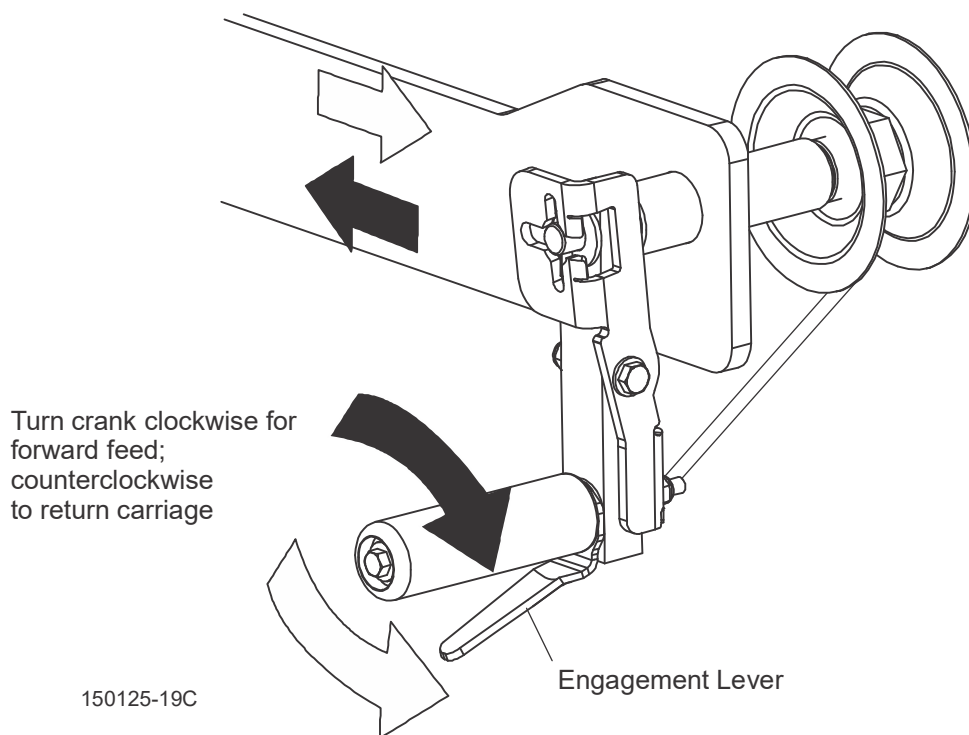

FIG. 5-6
1. Use the feed crank handle to move the saw carriage forward. See FIG. 5-6.